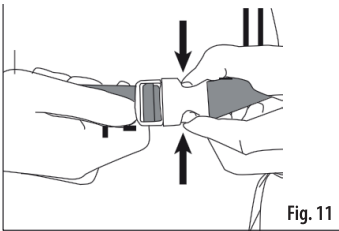

Fig. 11
6. To detach the battery from your back, just press the waist and chest buckles to release them and lower the backpack battery (Fig. 11)